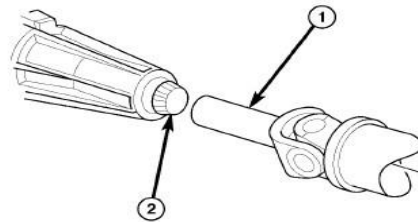

Figure 13 – Transmission Output Shaft
29. Slide the propeller shaft back off of the automatic transmission output shaft, then mark propeller shaft (1) and transmission output shaft (2) for installation reference (Figure 13).